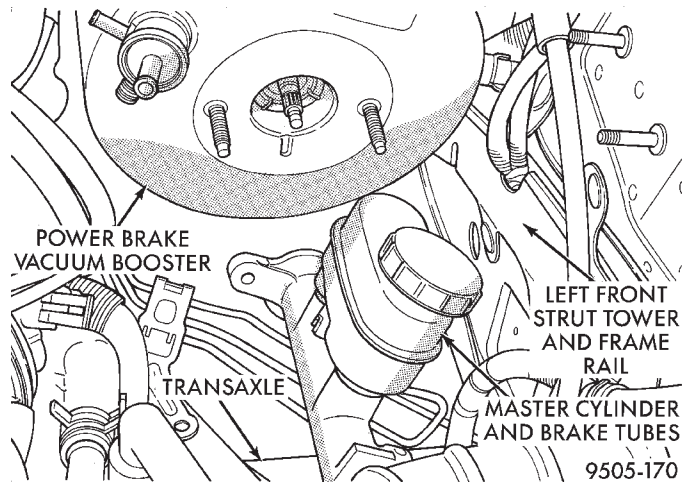

**Fig. 97 Master Cylinder Assembly Positioned For Booster Removal**
(11) Without removing the brake tubes from master cylinder, remove it from the power brake vacuum booster. Then carefully lower master cylinder and brake tubes as an assembly until it is positioned on top of the transaxle (Fig. 97).
(12) Locate the vacuum booster input rod to brake pedal attachment under instrument panel. Position a small screwdriver between the retaining clip center